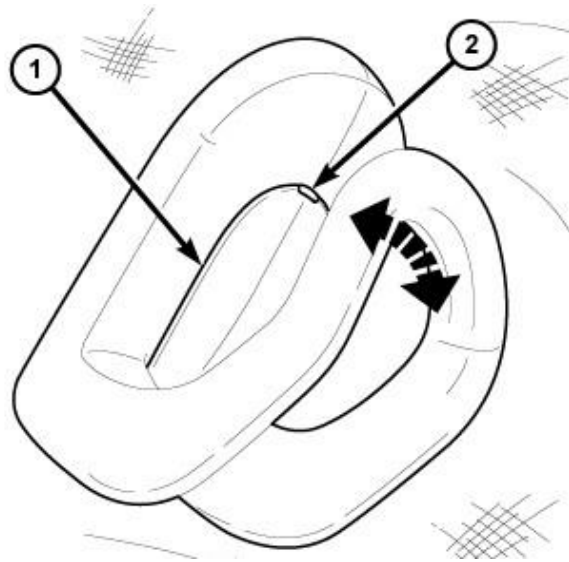

Figure 21 – Coat Hook
- 12. Using a small flat bladed tool, open the coat hook screw cover (2) then remove the screw and coat hook (Figure 21).
50. Position the coat hooks (5) onto the headliner and install the screws tightening securely into the mounting clips then close the screw cap fully (Figure 21).